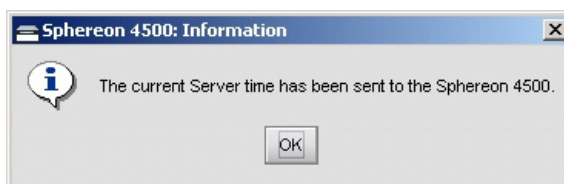

Figure 2-83 Date and Time Synced Dialog Box
- Day (DD): 1 through 31.
- Hour (HH): 0 through 23.
- Minute (MM): 0 through 59.
- Second (SS): 0 through 59.
- Click *Sync Now* to synchronize the switch and SAN management application immediately. The *Date and Time Synced* information dialog box displays (Figure 2-83).